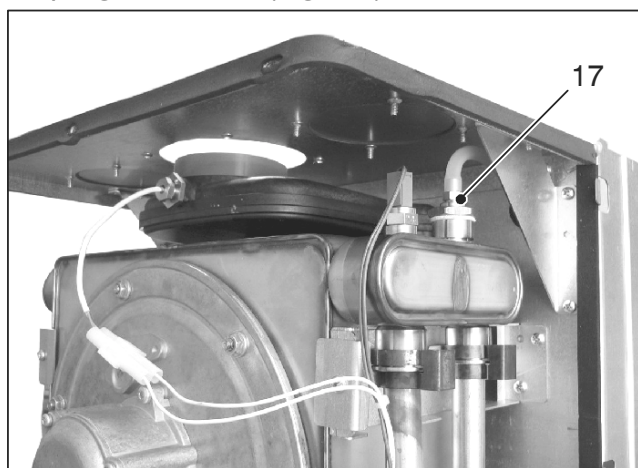

Fig. 7.2
- 3 Unscrew the condensing heat exchanger air purger valve 17 (Fig. 7.2).
- 6 Close the condensing heat exchanger air purger valve 17 (Fig. 7.2) when water begins to flow out.